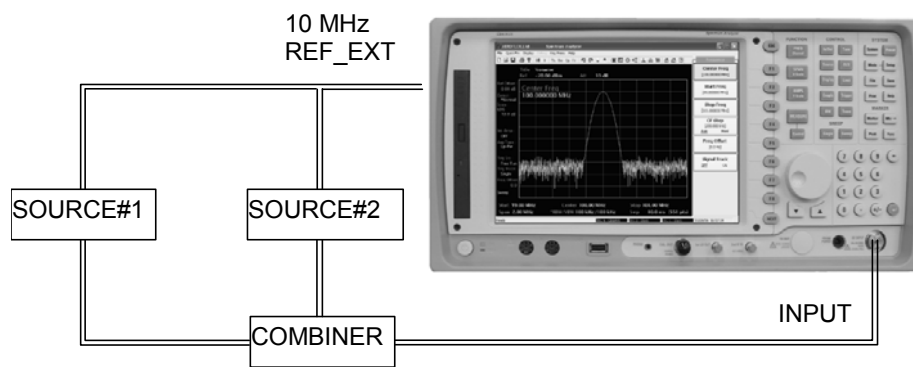

Fig. B-18 Third-order intermodulation equipment setup
- 1 Connect the equipment as shown in Fig. B-18. Press [Preset], [Preset].